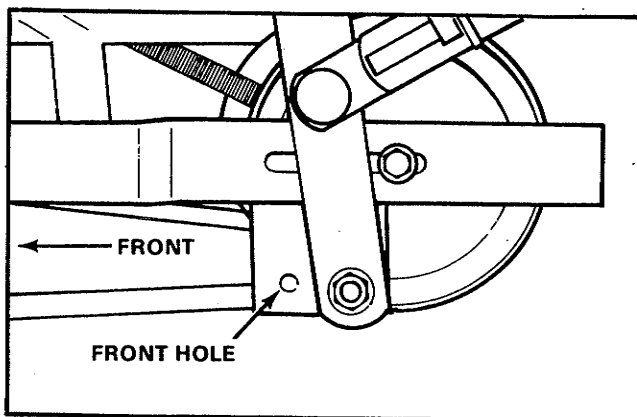

Figure 23. Pivot Bracket (Shown installed in rear hole).
3. It is important that the pivot bracket be connected to the proper holes in the hitch (figure 23). The correct holes to use depends on the tractor. For tractors with 20 inch or 23 inch diameter rear tires or 18 inch rear tires with 2-cylinder engine, use rear hole as shown in figure 23. For tractors with 18 inch diameter rear tires, except those with 2-cylinder engine, use front hole.